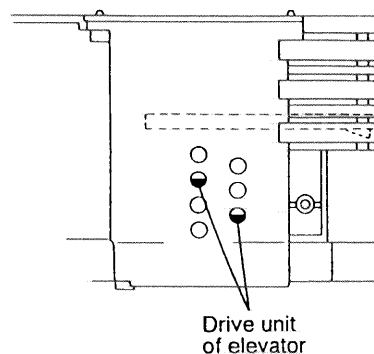
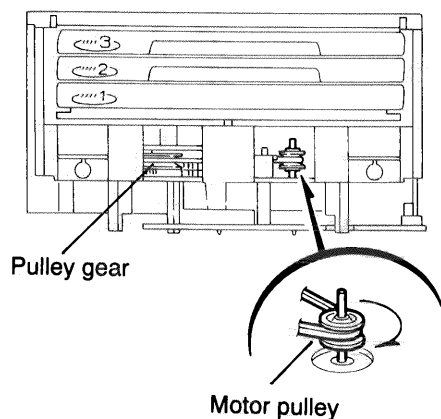

Fig.5-41
Fig.5-42
[Caution] In case the driver unit elevator is not at the above position, set the elevator to the position as shown in Fig. 5-41 by manually turning the pulley gear as shown in Fig. 5-42.
13. Manually turn the motor pulley in the clockwise direction until the lifter unit stopper is lowered from the section "E" of CD tray assembly (See Fig.5-42).